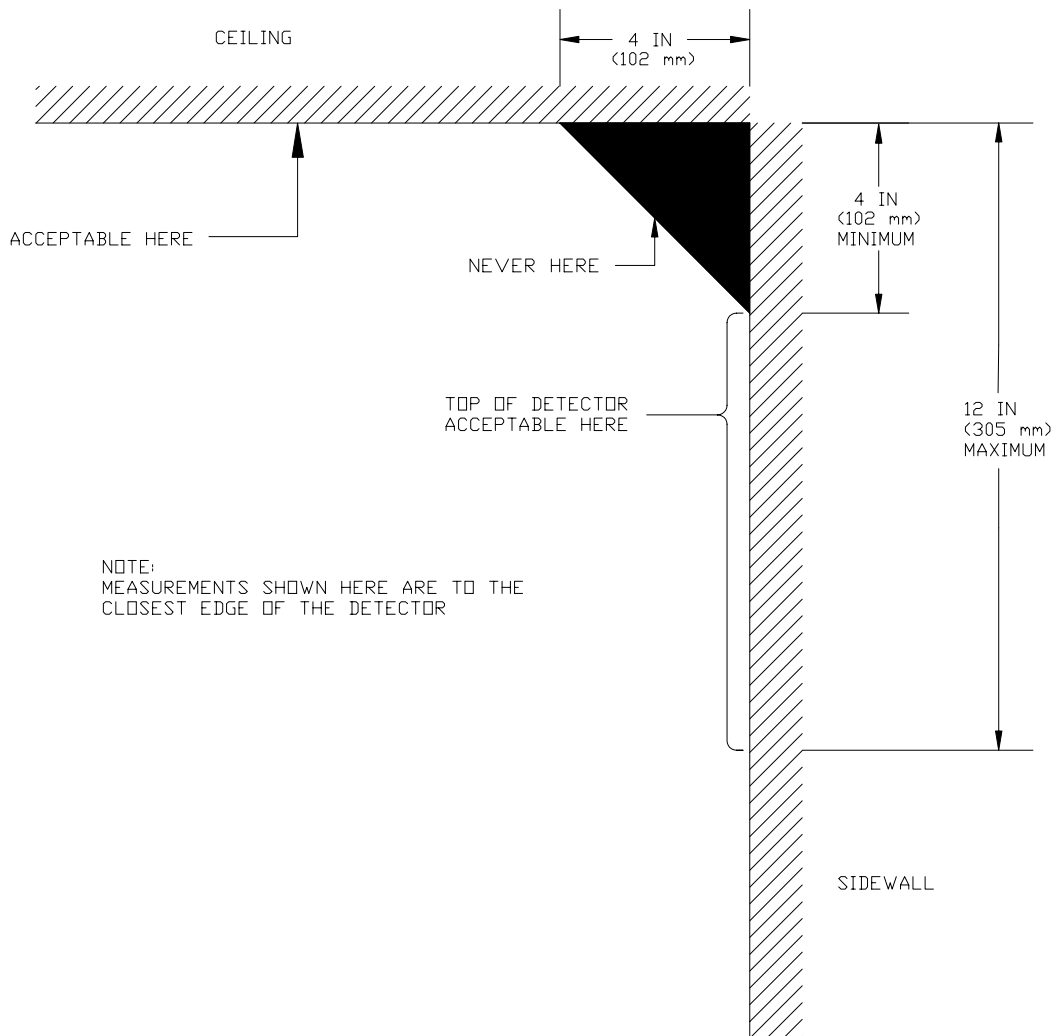

Figure 5
**4.7.1** All detectors, including fusible links, shall be placed as shown in Figure 5, but in no event shall detectors be placed in the dead air space area shown in Figure 5.
3. Locate the second fusible link within 12 inches of the ceiling on the door side of the wall. Do not install a link or detector within four inches of the intersection of the wall and the ceiling. (See Figure 5)
4. Locate the third fusible link on the opposite side of the wall at a distance from the wall that will allow sufficient travel of the sash chain or cable to completely release the fire door. Attach the fusible link near the ceiling straight out from the through wall hole. The fusible link must be more than four inches from the intersection of the wall and ceiling. See "through-wall conduit installation information" on page 4. (Also see Fig. 5)